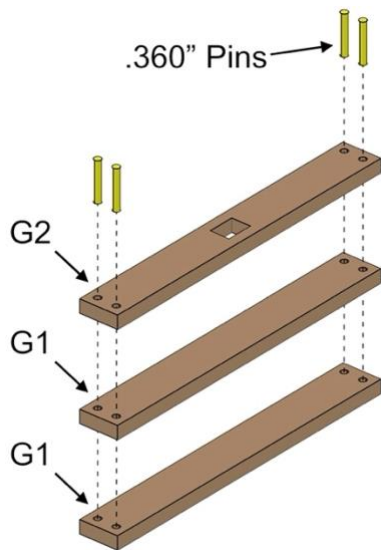

Fig. 25
- Align parts exactly as shown in Fig. 25.